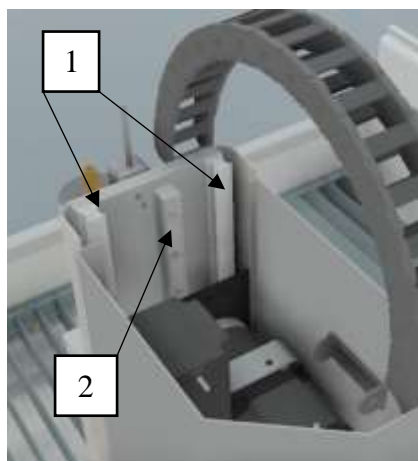

Fig.58: Z-axis
5. Grease the linear guides (Fig. 58 /1) and the rack (Fig. 58 /2) of the Z-axis with a light machine oil using a lint free cloth.